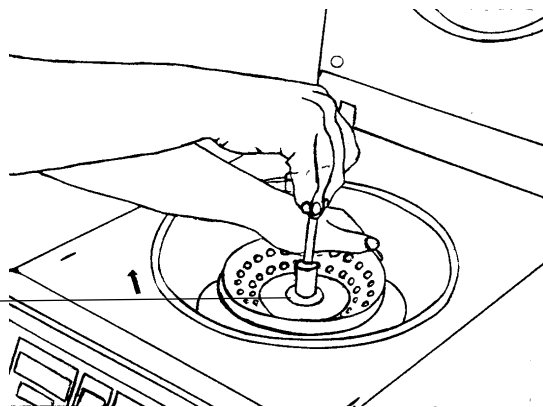

Figure 4
Hold the rotor with one hand and secure the rotor to the shaft by turning the rotor nut (1) counter-clockwise (see figure 4).